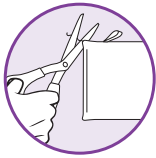

fig. 32
- 2 If there are loose threads on the cleaning pad carefully cut the thread with scissors. Do not pull on them or cut at the base. (fig. 32)